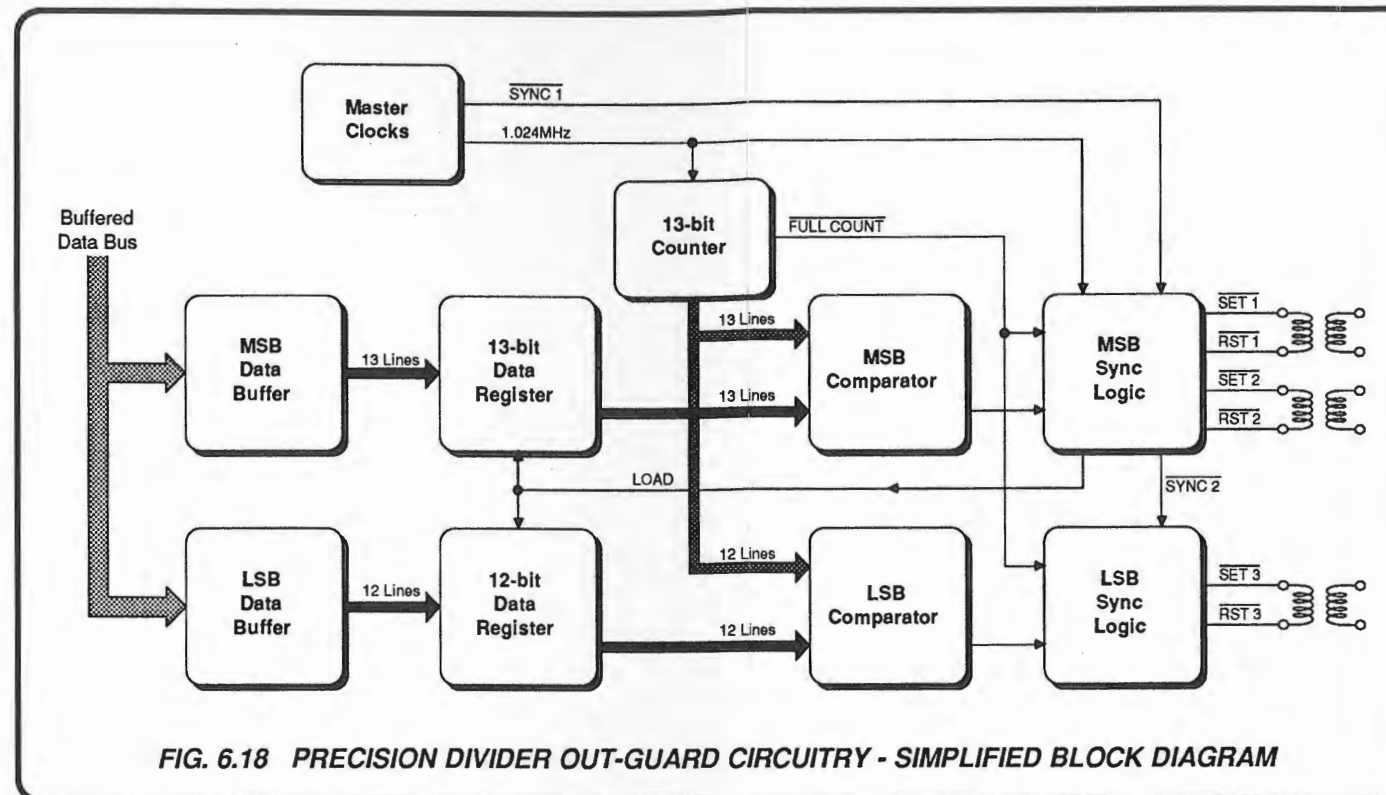

FIG. 6.18 PRECISION DIVIDER OUT-GUARD CIRCUITRY - SIMPLIFIED BLOCK DIAGRAM
6.5.1.1 General (Figs. 6.18 and 6.19)
6.5.1.2 Comparator Operation (Fig. 6.18)